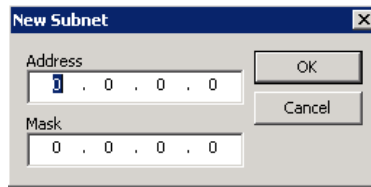

Figure 5-47 New subnet dialog
- **Insert** - Clicking the **Insert** button brings up the New Subnet dialog shown in figure 5-47. Enter the IP address and subnet mask for the new subnet in the **Address** and **Mask** dialog boxes.
- **Modify** - Selecting an existing subnet from the **External Subnet** listing then clicking the **Modify** button brings up the **New Subnet** dialog displayed in figure 5-47. The existing subnet IP address and subnet mask will be displayed. Make the modifications required in this dialog then click the **OK** button to make the changes.